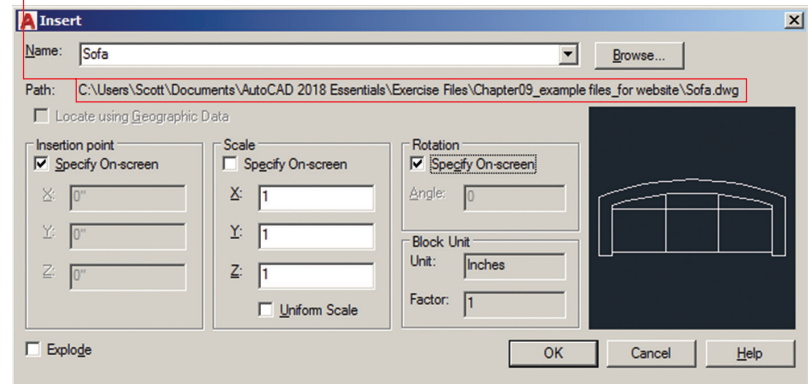

FIGURE 9.8 Configuring a global block in the Insert dialog box
4. Click the Insert tool on the Block panel. The Sofa2 block is not yet defined in this drawing's block table, so you won't find it in the Name drop-down. Click the Browse button and locate the `Sofa2.dwg` file you saved in the previous exercise, or use the `Sofa2.dwg` file provided in the Samples folder for Chapter 9. Select Specify On-screen for both Insertion Point and Rotation in the Insert dialog box (see Figure 9.8) and click OK.